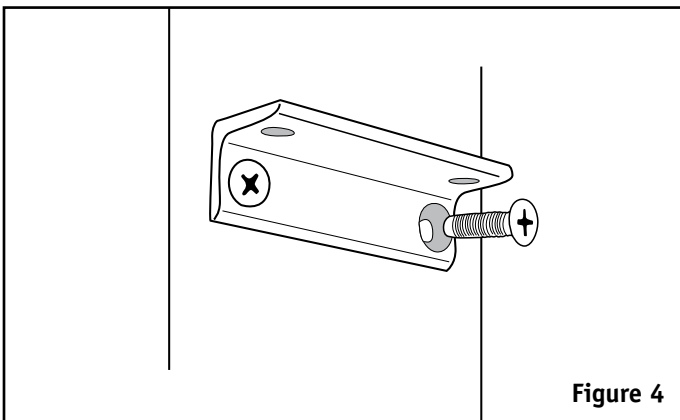

Figure 4
Once the five holes are drilled, attach the panel-mount brackets with four (4) #10 stainless steel countersunk thread-forming Phillips-head screws that are provided (Figure 4).
First, make sure that the power is disconnected from the supply wiring. Next, connect the positive power source wire securely to the red conductor located on the back of the Powerhouse. Then connect the negative power source wire securely to the black conductor located on the back of the Powerhouse. The Powerhouse attaches to the same bracket with the four (4) #10 stainless steel Phillips-head pan screws included in your installation kit (Figure 4). You may have to press gently to compress the four rubber anti-vibration pads on the bottom of the Powerhouse in order to properly seat the screws. Installation is now complete.